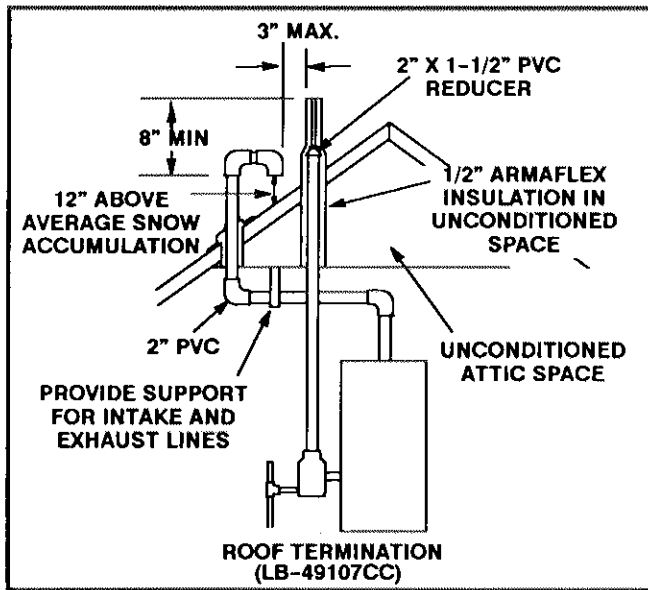

FIGURE 4
Intake and exhaust pipes may be routed either horizontally through an outside wall or vertically through the roof. In attic or closet installations, vertical termination through the roof is preferred. Figures 4 through 10 show typical terminations.
- 5- Exhaust piping must terminate straight out or up as shown. On roof terminations, the intake piping should terminate straight down using two 90° elbows (See figure 4). In rooftop applications, a 2" X 1-1/2" reducer must be used on the exhaust piping at the point where it exits the structure to improve the velocity of exhaust away from the intake piping.